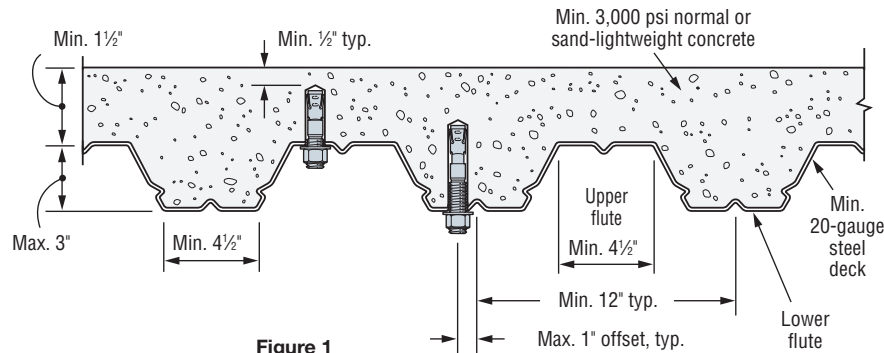

Figure 1
8. Installation must comply with Figure 1.
4. Installation must comply with Figure 1.
4. Installation must comply with Figure 1 on page 18.
7. Installation must comply with Figure 1 on page 18.